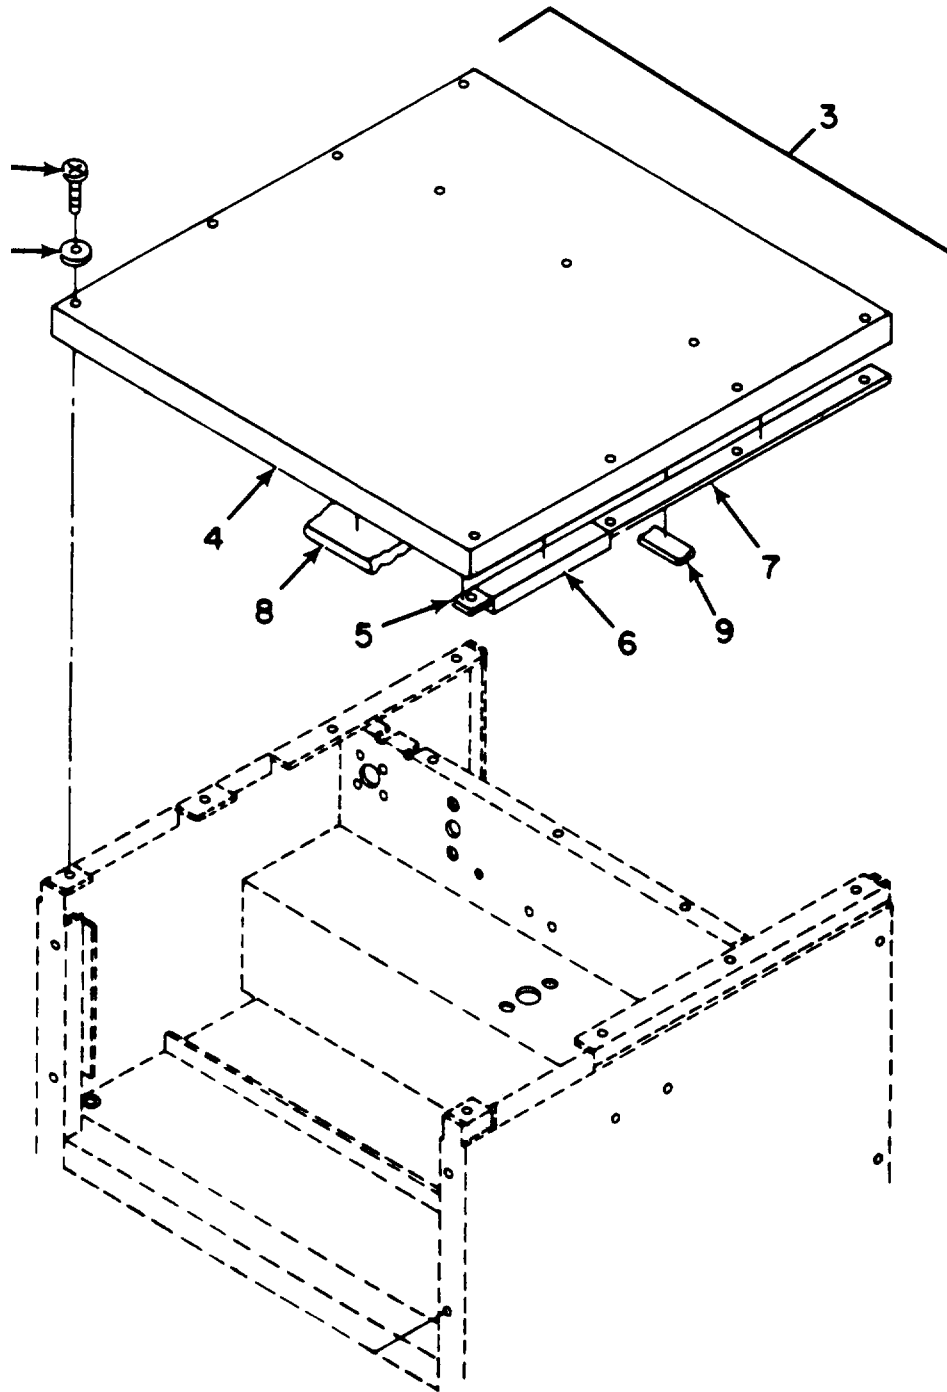
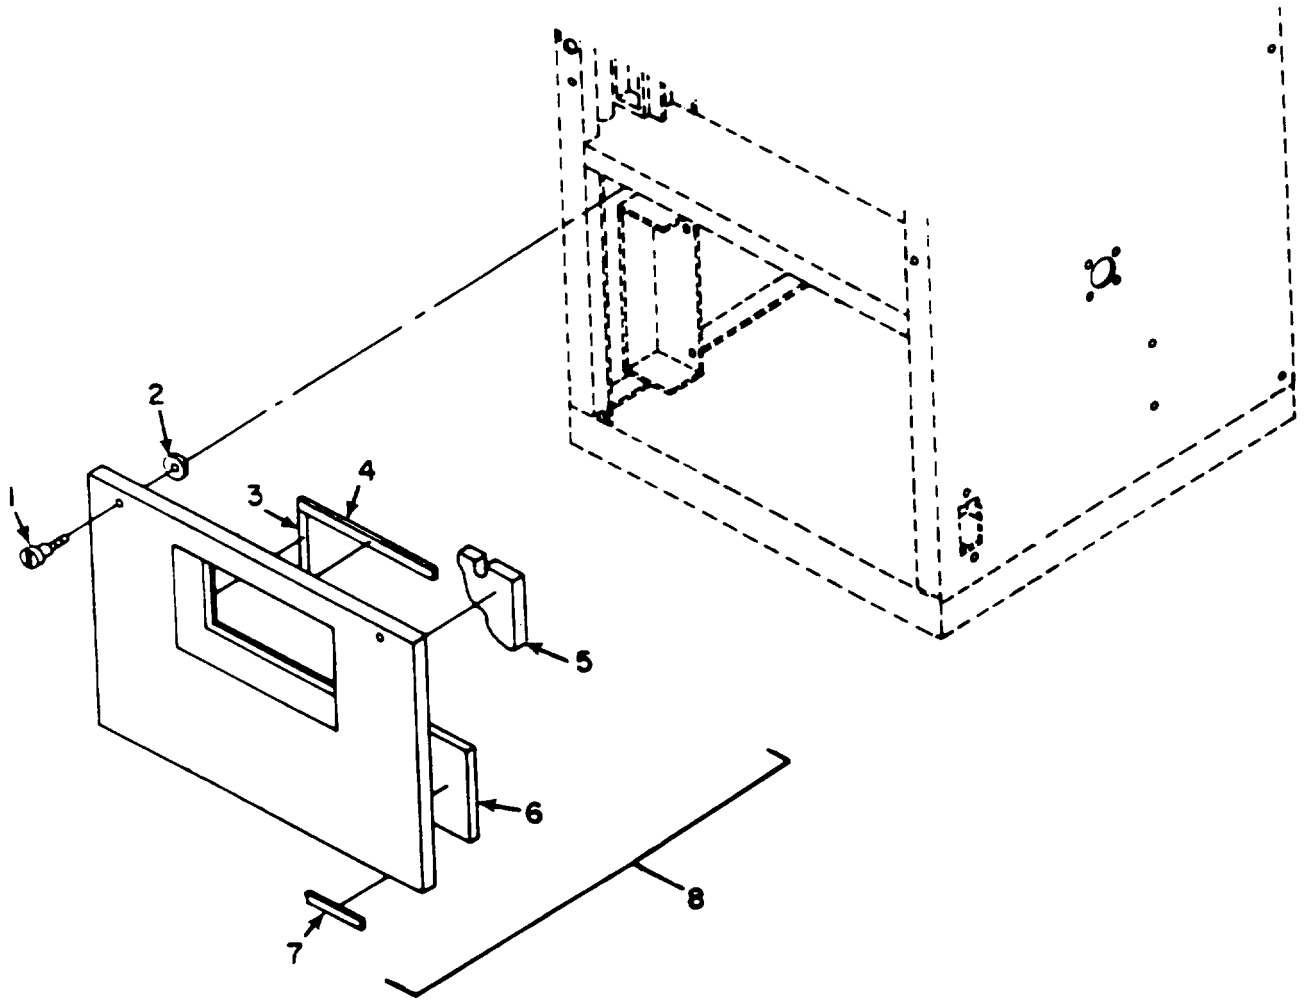

Fig. 4-6. Top Panel.
Fig. 4-7. Lower Panel.
- (b) Remove 16 screws (1) and rain seal washers (2) and 2 panel fasteners (4) and remove canvas cover (3).
2. Top Panel (See Figure 4-6).
3. Lower Panel. (See Figure 4-7).
(b) Insulation and Sealing Strips (Fig 4-6, items 3-7; Fig 4-7, items 3-7).
(a) Install top panel (8) as shown in Figure 4-6.
(a) Install lower panel (8) as shown in Figure 4-7.